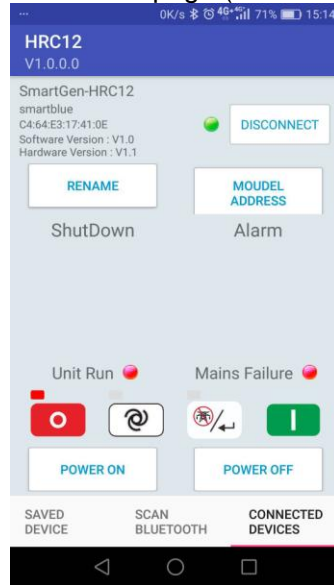

Fig. 7 Connected Devices Interface
(3) Connected Devices page is as Fig. 7 Connected Devices Interface; after successful communication, it will read out software and hardware version numbers.
When click POWER ON button in Fig. 7 Connected Devices Interface, controller connected with Bluetooth Module WAKE UP terminal goes from low power consumption to normal working mode.